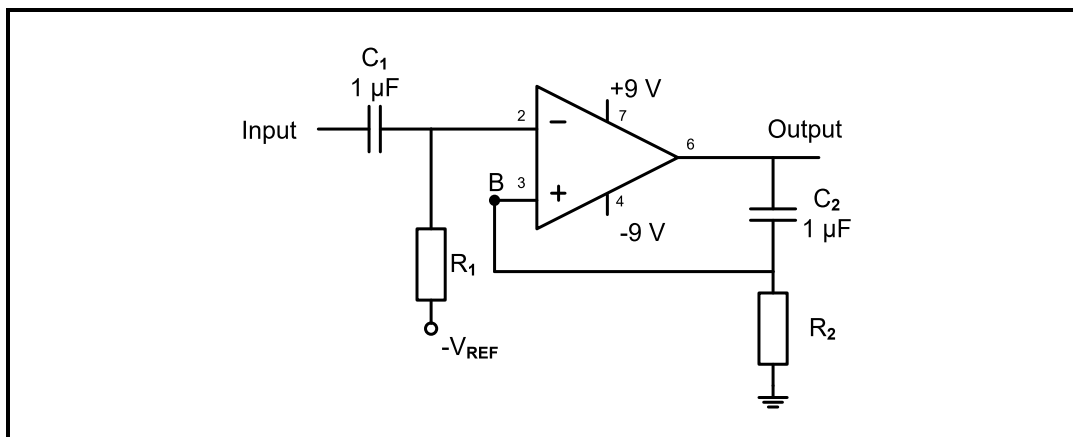

FIGURE 3.4: MONOSTABLE MULTIVIBRATOR
- 3.4 FIGURE 3.4 below shows a monostable multivibrator circuit using a 741 op amp. Answer the questions that follow.